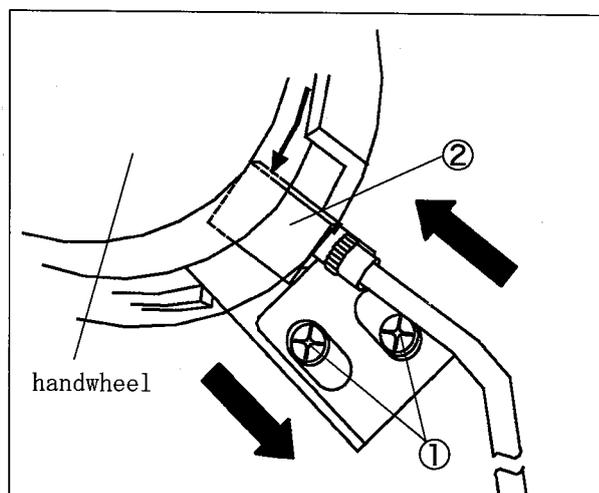

Fig. 10
- If the needle stops before the highest position, move the synchronizer ② to the left. (Fig. 10)